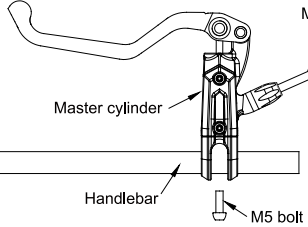

FIG.1
- Mounting the master cylinder/brake lever on handlebar with M5 screw bolt. Adjust its appropriate angle with position, then tighten it at a torque of 4~6Nm(35~53 in. lbs) (as shown in FIG.1).